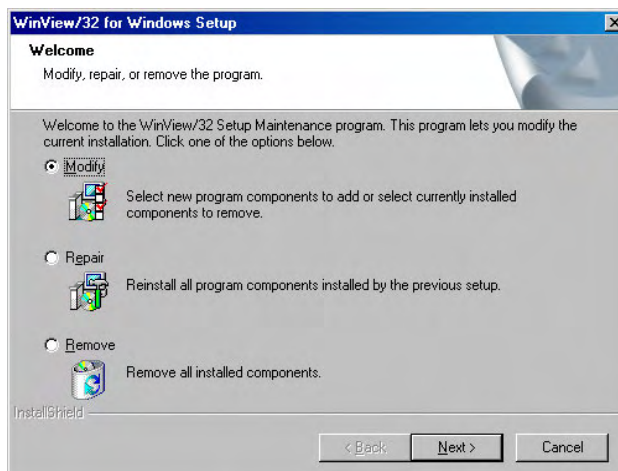

Figure 152. Maintenance dialog box
2. Because WinView/32 was previously installed, the **WinView Maintenance** dialog box (Figure 152) will be displayed.